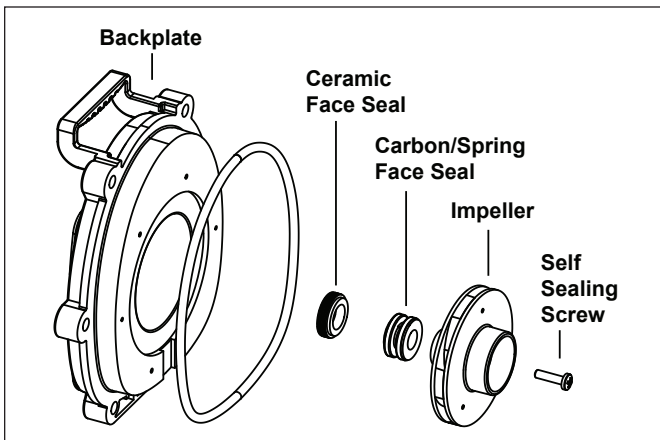

Figure 5. Mechanical Seal Assembly with Impeller
The mechanical seal consists of two (2) parts: the carbon/spring face seal (installed on the impeller motor shaft) and the ceramic face seal (installed on the backplate). See Figure 5.
1. Replace the carbon face from the mechanical seal on the impeller. See Figure 5.